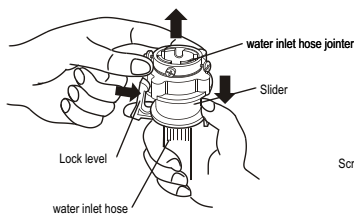

Figure 1
1. Press the lower end of the lock lever and push down the slider. Take off the water inlet hose jointer from the water inlet hose component. See to Figure 1.